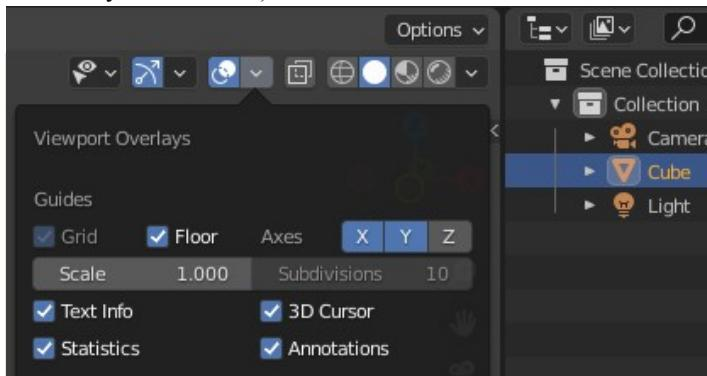

Figure 2-7 Viewport Overlays Statistics
9. *Decimate* is a way to remove vertices but preserve, as far as possible, the original shape. Try **Add Modifier** ▶ **Generate** ▶ **Decimate**. A clearer display of the scene statistics is also available using the Viewport Overlays options (the drop-down next to the overlapping circles icon as shown in Figure 2-7) as well as other features to customize the 3D Viewport. With smooth shading, you can often reduce the number of faces quite significantly before the object becomes too misshapen, but notice that the faces become rather randomly shaped, which might be a problem for certain applications (as you'll see later).